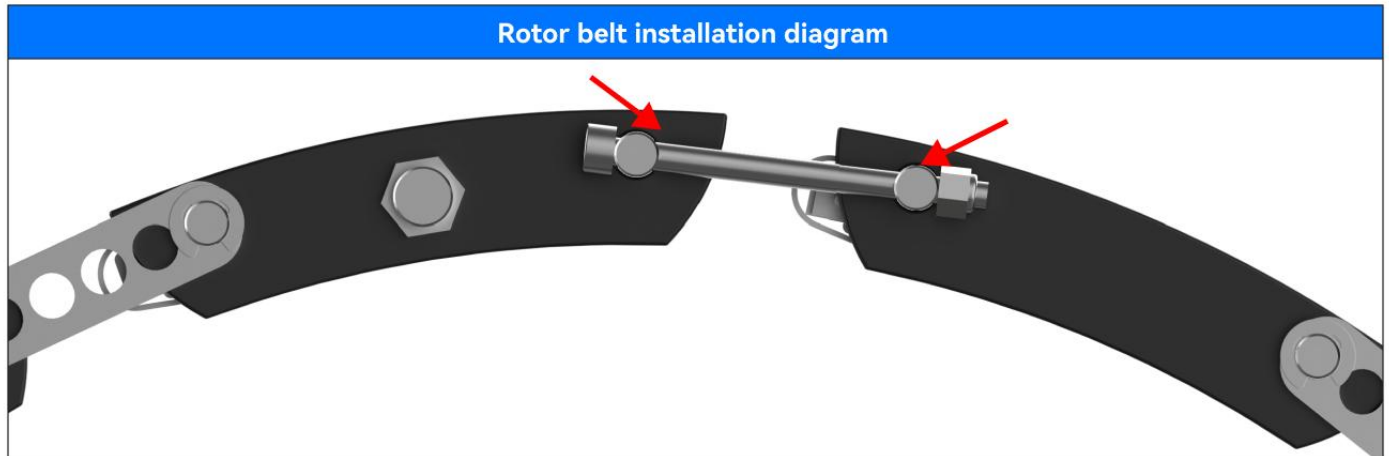

Figure 3.34
2. Connect both ends of the rotor assembly to the top of the shaft using adjustable bolts. Check to ensure that the cable of the rotor assembly is close to the transmitter assembly and that the rotor assembly is positioned along the circumference guide rail, as shown in Figure 3.34. Gradually tighten the top and bottom M4 regulator bolts and nuts until they are tight and the rotor assembly is secure.